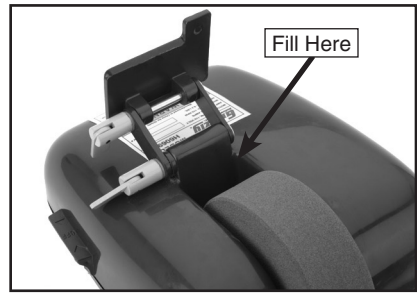

Figure 2. Tool rest moved away from sharpening wheel.
3. Fill the water reservoir. See **Figure 2**